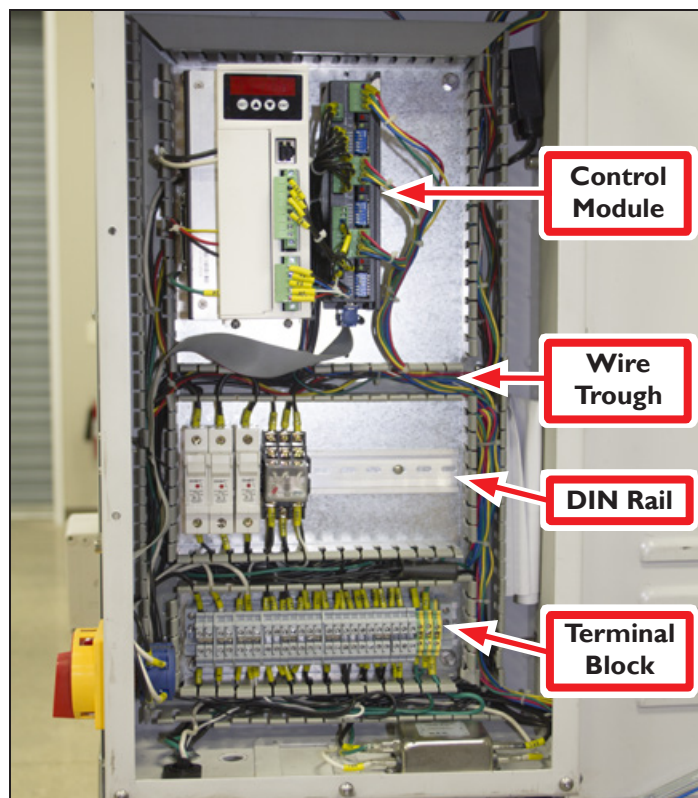
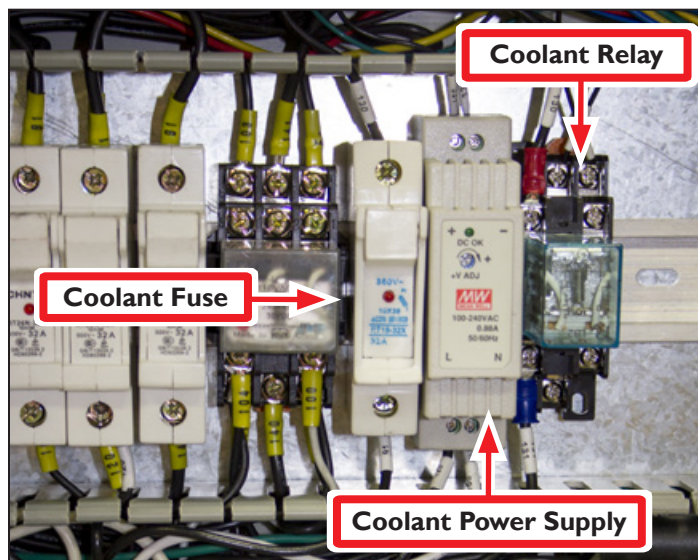

Figure 1
Figure 2
3. Remove five Wire Trough covers inside electrical cabinet as shown in **Figure 1**; set aside.
4. Clip Coolant Fuse, Coolant Power Supply, and Coolant Relay into DIN Rail (see **Figure 1** and **Figure 2**).